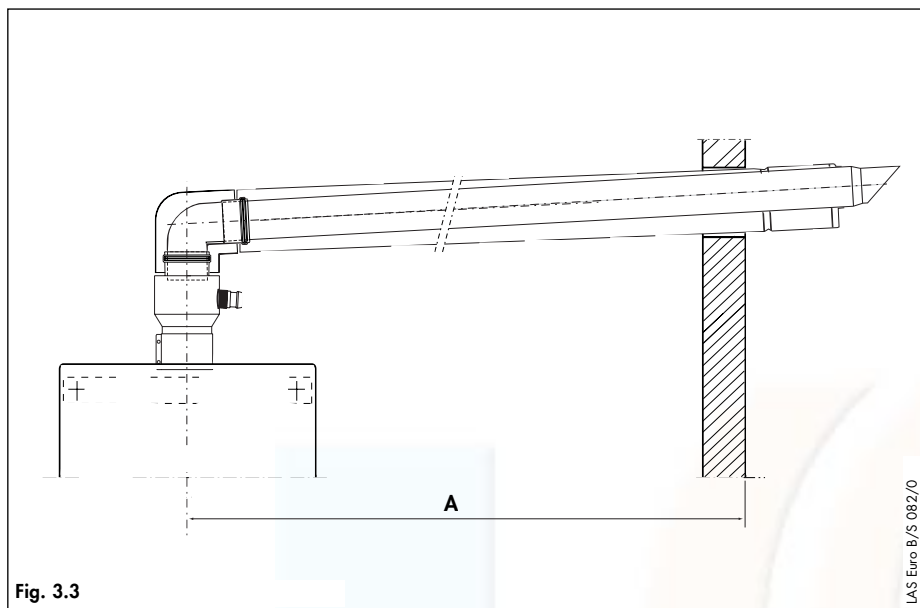

Fig. 3.3
- Measure the distance from the outside face of the wall to the centre of the fan outlet on the boiler (fig. 3.3). **This is dimension A.**
- For installations where the measured distance dimension A (fig. 3.3) is greater than 960 mm, an air/flue extension accessory will be required. The number of air/flue duct extensions which can be used depends on the boiler.